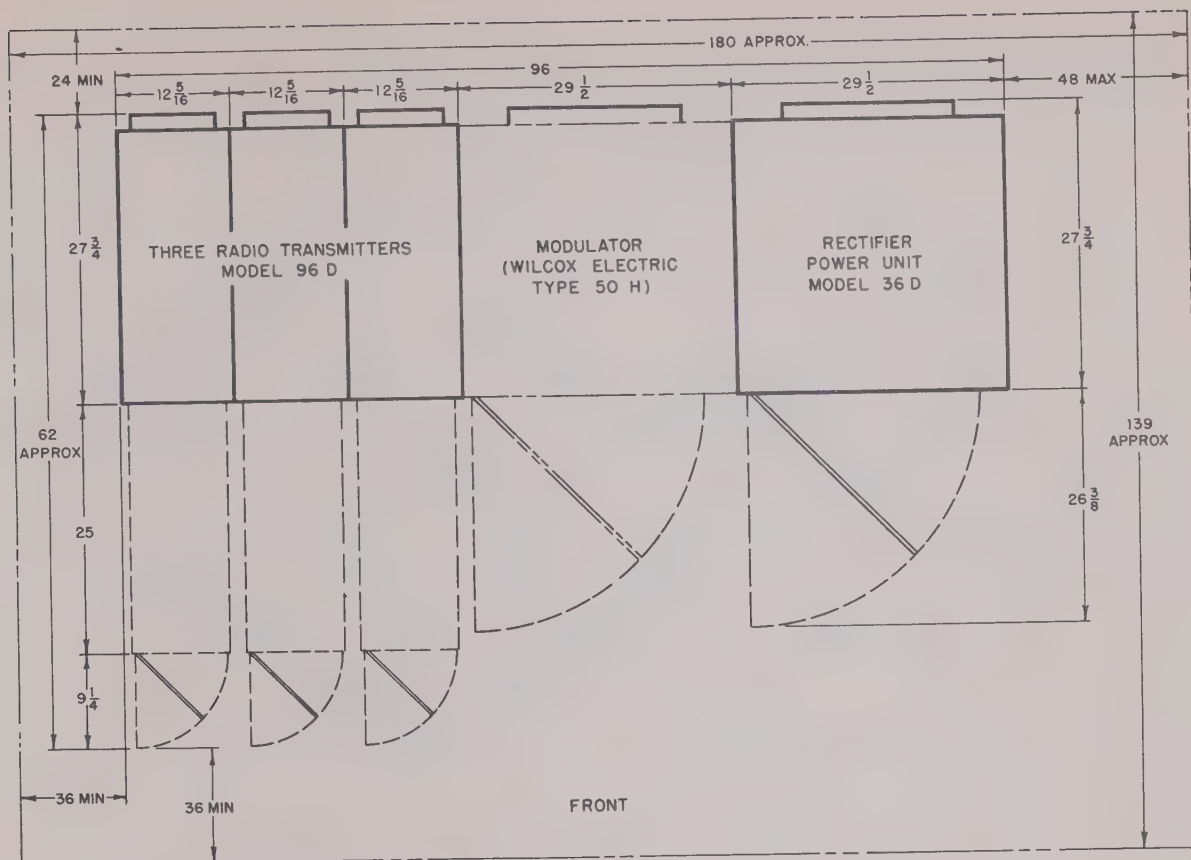

Figure 17. Floor space required for installation of three transmitters, one rectifier, and one modulator
(2) Sufficient space must be available for possible repair work and for door swing as explained in subparagraph (4) below.
(3) The ceiling height must be at least 9 feet to allow for r-f transmission line installation.
(4) Sufficient space must be allowed behind the equipment to permit removal of the rear panels, and sufficient space must be allowed at one end of the installation so that it is possible to walk to the rear of the equipment. Figure 17 is a layout showing the floor space required when three Radio Transmitters Model 96D, one Rectifier Power Unit Model 36D, and one Modulator Type 50H are grouped together as an installation. Except for these limitations, the equipment may be located anywhere convenient to the transmission lines and external power source.